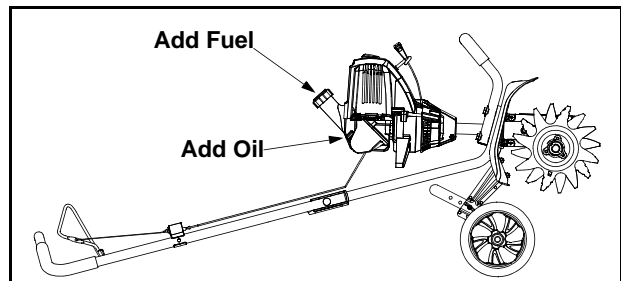

Figure 8
- **When checking oil, the unit must be laid back in the horizontal position on a flat surface with the upper handle touching the ground.** See Figure 8.
- When adding oil, the unit must be laid back in the horizontal position on a flat surface with the upper handle touching the ground. See Figure 8.